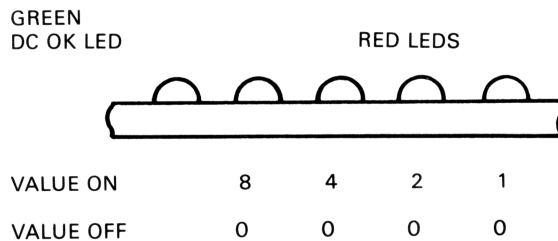

Figure 5-1 CPU Module LEDs
- In four red LEDs (in binary form) on the KA630-An CPU module (Figure 5-1), and